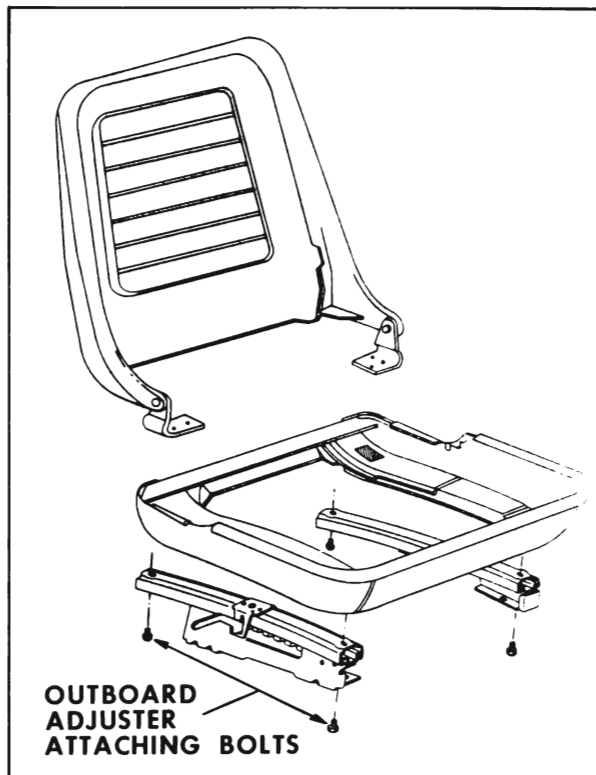

Figure 5-13—Seat Adjuster Attaching Bolts
4. Remove seat adjuster-to-seat bottom frame bolts (Figure 5-13) and remove adjuster from seat.